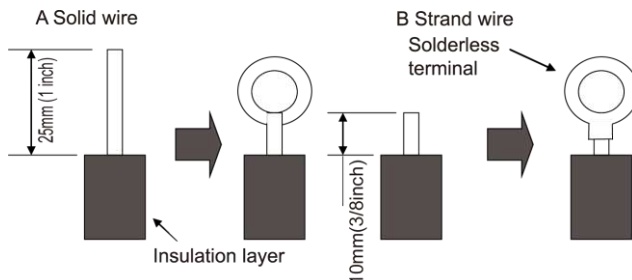

Fig. 4.20
- (1). For solid core wiring (Fig. 4.20)
- (2). For strand wiring (Fig. 4.20)